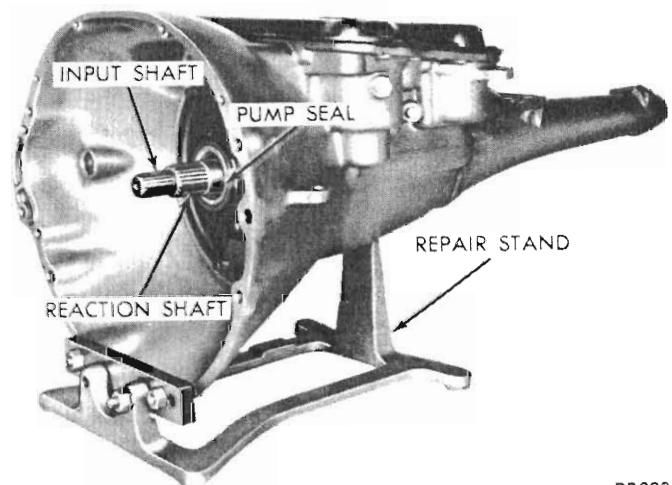

Fig. 49 - Transmission installed in repair stand
(1) Place transmission assembly in repair stand, Tool E21C5C (Fig. 49).
(2) Unscrew oil pan bolts and remove oil pan and gasket.